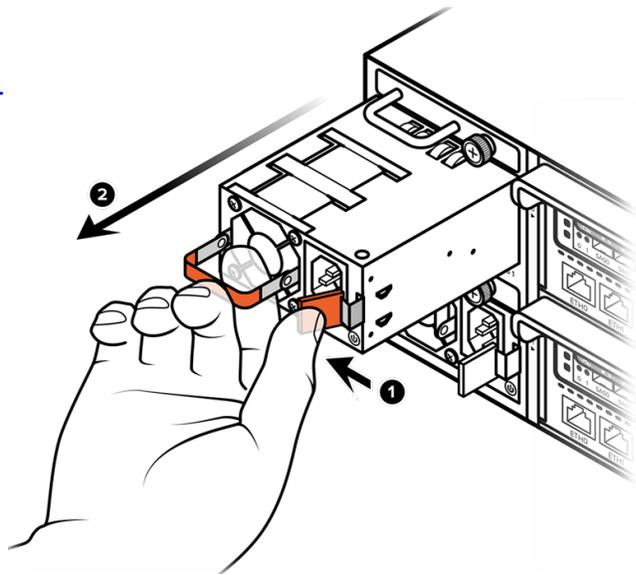

Figure 1-5. Remove PSU from Chassis
1. Grasp the PSU handle with your index finger and press the PSU latch inward to release it from the power supply module (PSM). See Figure 1-5.